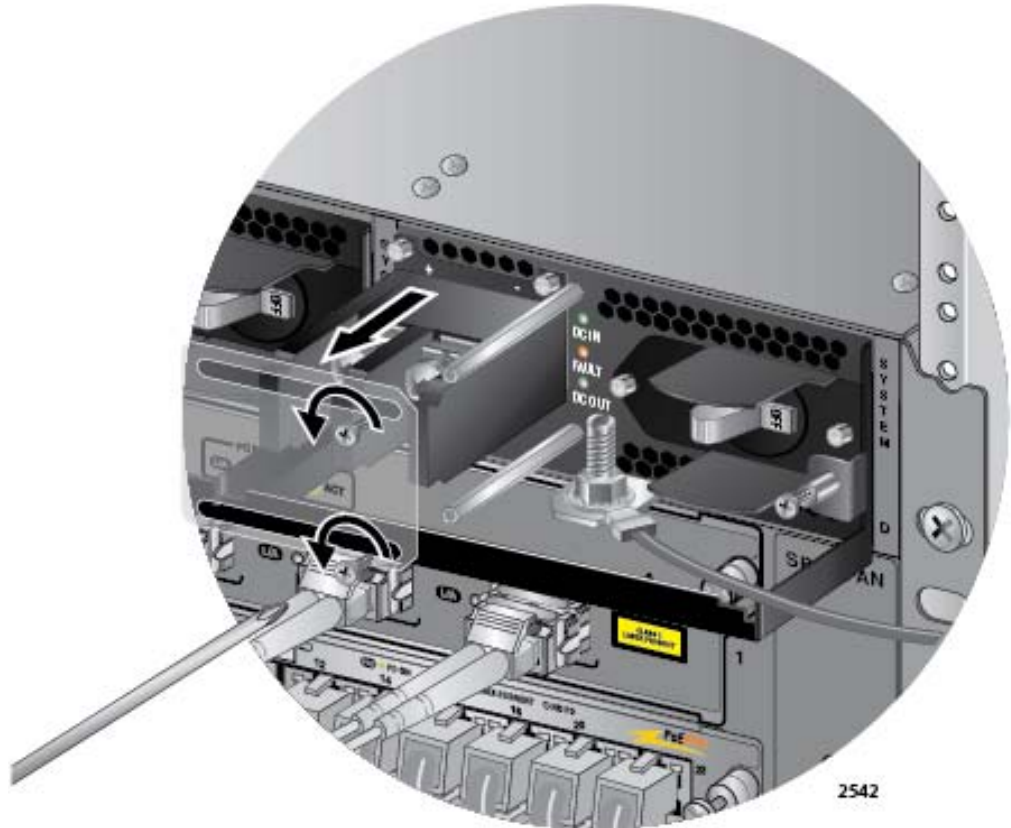

Figure 136. Removing the Plastic Cover
4. Using a #1 Phillips-head screwdriver, remove the two screws that secure the plastic cover over the positive and negative terminals and remove the plastic cover from the power supply, as shown in Figure 136. You may need to lift the locking handle slightly to access the bottom screw.